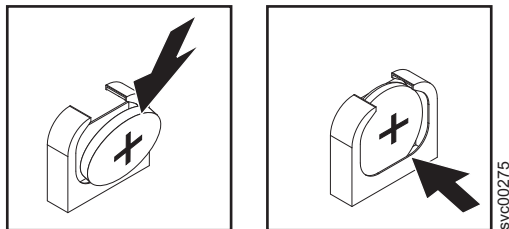

Figure 134. SAN Volume Controller 2145-DH8 CMOS battery holder
- b. Press the battery across into the socket until it clicks into place. Make sure that the battery clip holds the battery securely, as shown in Figure 134.